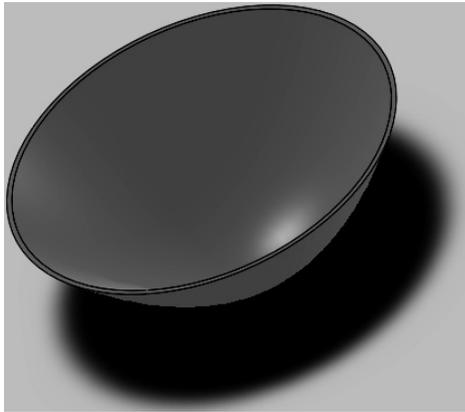

Figure P-5 Satellite dish
5. Use the information in the parabola section (refer to Figure 2-12) to create the satellite model shown in Figure P-5.